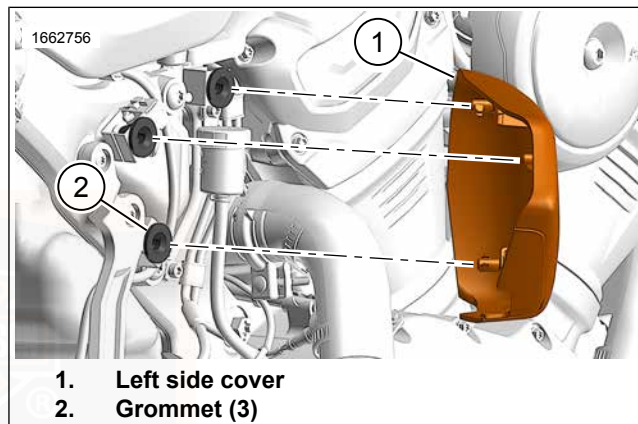

Figure 83. Right Side Cover (RH975)
1. See Figure 83. Pull right side cover (1) away from vehicle.